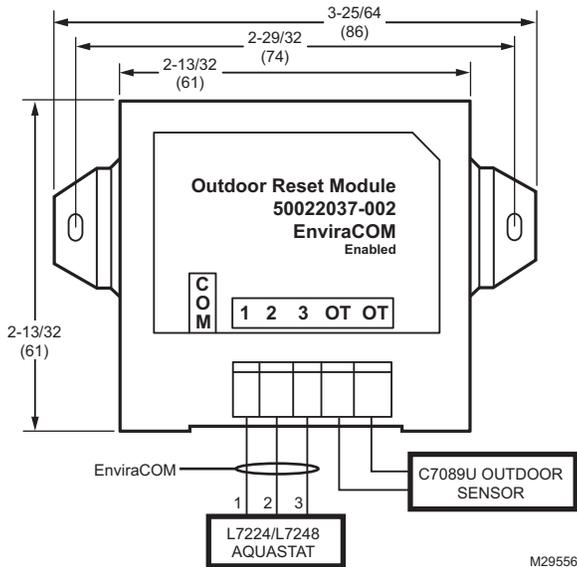

Fig. 1. 50022037-002 Outdoor Reset Module wiring diagram.
2. Wire the 1, 2, and 3 terminals on the Outdoor Reset Module to the 1, 2, and 3 terminals on the EnviraCOM™ enabled thermostat (if available), Aquastat, or anywhere on the bus where access is available and convenient. See Fig. 1.
3. Wire the 2 wires from the C7089U temperature sensor See Fig. 1 into the OT terminals on the Outdoor Reset Module. One wire inserted into 1 OT terminal, the other wire inserted into the other.